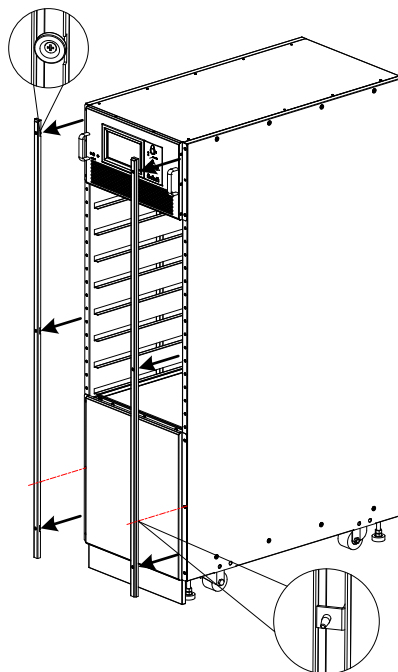

Figure 3-6 Remove cabinet trim strip
1. Remove cabinet trim strip, as Figure 3-6 shows ;